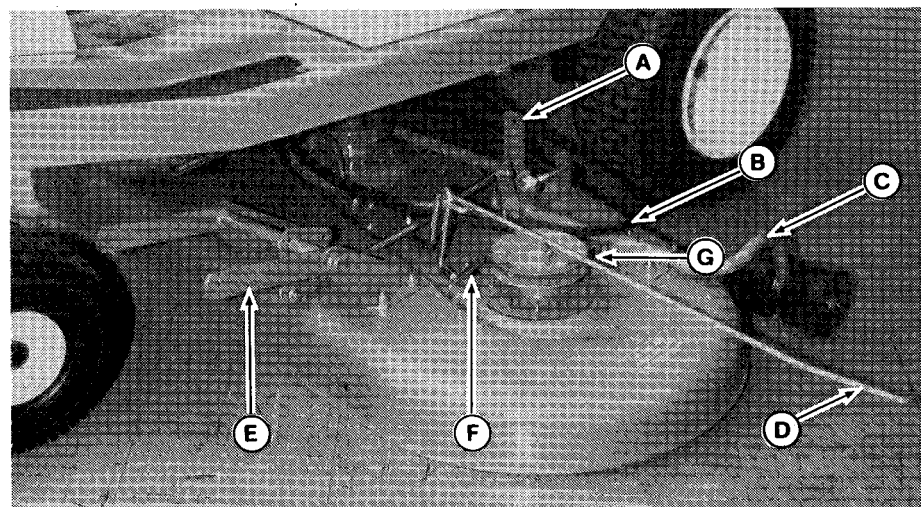
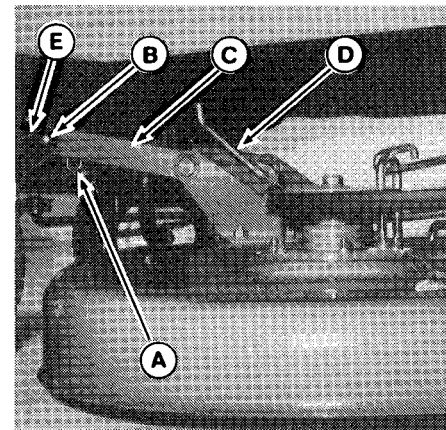
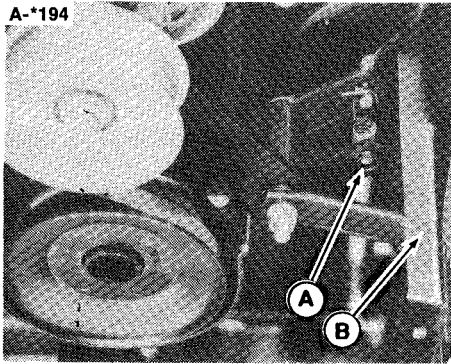
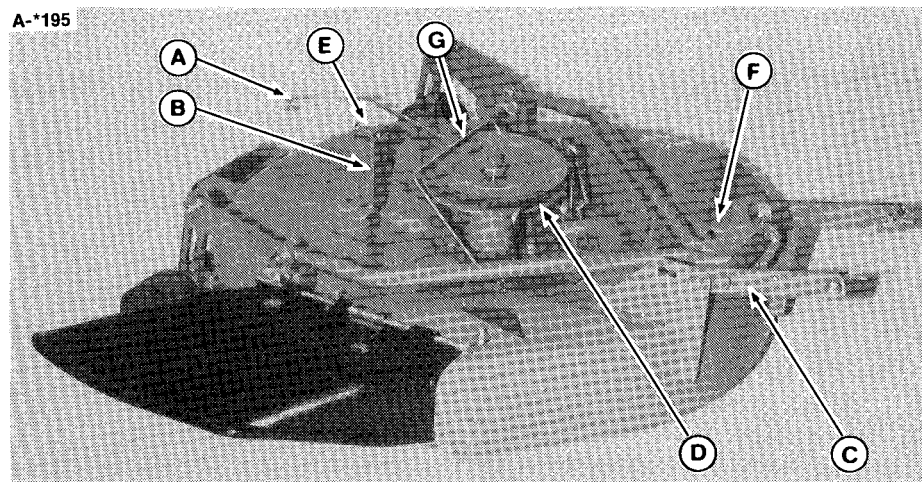

Figure 21. Installing 36" Mower
Figure 23. Mower Hitch
Figure 24. PTO Linkage
Figure 25. 26" & 30" Mower
1. Place mower on left side of rider with mower brake rod (D, figure 21) pointing left. Slide mower partially under and place belt over mower bracket (A).
2. With mower as far toward rear of rider as possible (rollers just clear tires) push mower under rider until hitch touches steering mechanism. To slide mower farther, push down on both the hitch and the roller arm (C). Slide mower
- To align the mower hitch in rider hitch ears, push the hitch arms up and insert between ears (figure 23). (Pulling up on roller arm will help raise hitch.) Secure the mower hitch with pins and spring clips. Install pins from the outside. Be sure to install clip fully onto large ring.
- Install the belt on the pulleys. Push the mower brake (F, figure 21) away from the pulleys to install belt. Loosen left arbor pulley belt stop if necessary. Make sure "V" side of belt rides in pulleys and there are no twists in belt.
- Push the brake (F, figure 21) away from the pulleys so the brake rod (D) will clear the tire and left side plate. Insert the brake rod just inside the left side plate and insert the end of rod into PTO linkage shown in figure 24. (Engage the PTO lever to change position of the linkage.) Secure the brake rod with a spring clip (insert spring clip from rear).
- Put height control lever in lowest position. To slip the lift rod (D, figure 23) into the hitch flange, the front of the mower must be raised a little. One method is to insert a wooden handle under the front of the mower deck and lift slightly (in a lever action). Insert end of lift rod into the hitch flange. Secure the rod with a washer and cotter pin.
1. Remove the spring clip from the brake rod and remove end of rod from the PTO linkage (figure 24). Push brake rod forward to clear left side plate and tire and swing rod out toward left side.
Loosen the hardware which secures the pulley belt guard (G, figure 25). The guard must be loose to install the belt.
mower bracket (B, figure 25).
6. Position the mower under the rider so that the mower bracket (B) is behind the rider upstop bracket.
7. Push the brake (D, figure 25) away from the pulley and slip the belt into the pulley. Be sure there are no twists in the belt. The belt is shown installed on the pulley in figure 5 on page 10. Tighten the belt guard (G, figure 25) hardware securely.
8. Lift up the front of the mower to align the hitch arms between the tractor hitch ears (figure 23). Insert the two pins while holding mower up. Install the two spring clips in the pins.
9. Lift up the front of the mower and insert the lift rod (D, figure 23) into the hitch flange. One method to lift mower is to insert a wooden handle under the front edge of the mower deck and lift slightly (in a lever action). Place washer on lift rod then install spring clip.
10. Apply a little grease to the inside of the spacer (E, figure 25) and place the spacer on the bolt. Install the bolt thru the upstop bracket and mower bracket from the front. Be sure spacer is inside the upstop bracket. Install the locknut on the bolt. Tighten securely.
11. Push the brake (D, figure 25) away from the pulley to insert the brake rod (A) just inside the left side plate. Insert the rod into the PTO linkage shown in figure 24. Insert the spring clip into the rod from the rear.
5. Loosen the hardware that secures the mower pulley belt guide (G, figure 25). Push the brake (D) away from the pulley and slip the belt out. Push the mower to one side and slip belt between mower bracket (B) and upstop bracket.
6. Remove the spring clip from the rear of the brake rod (A) and pull rod out of the linkage.
7. Remove the spring clip from the lift rod (D, figure 23). Remove the washer.
8. The mower must be lifted slightly to remove the lift rod from the mower flange (F, figure 25). One way is to insert a wood handle under edge of mower and lift up in a lever action. Pull lift rod out of the hole.
4. Loosen the idler pulley (K) mounting hardware. If pulley is removed, remember the position of the washers and belt stop (M).
5. On the 36 inch mower loosen the left arbor pulley belt stop. On 26 inch or 30 inch mower loosen the belt guide (G, figure 25 on page 29).